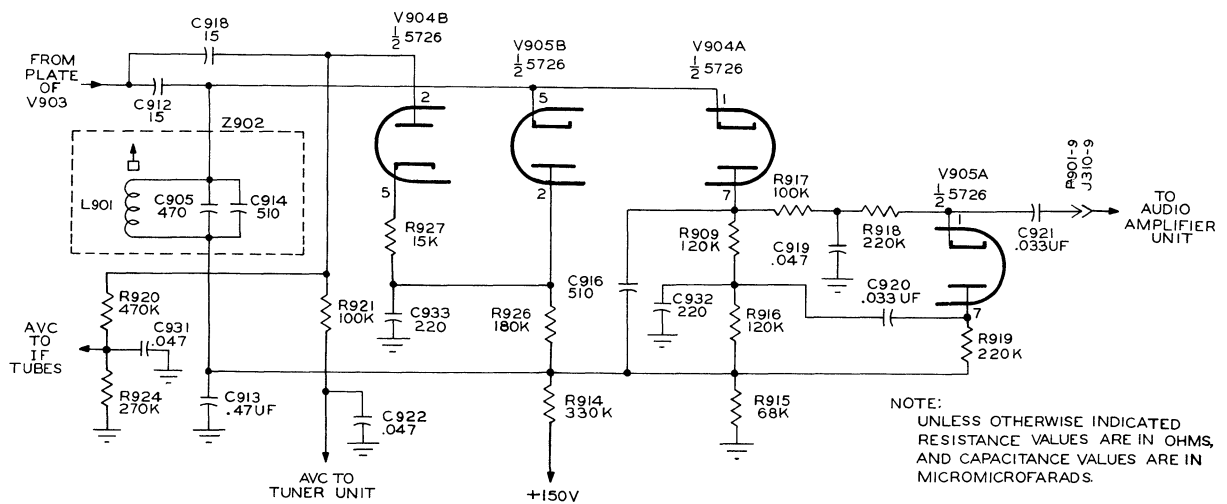

Figure 4-31. 250 Kc I-F Amplifier, Detector AVC Circuit, Simplified Schematic Diagram
4.9.6.3 DETECTOR - AVC CIRCUIT. Refer to figure 4-31. One half of diode V904 is used as the detector. Signal voltage is coupled through C912 and applied to cathode of V904A. Rectified voltage appears